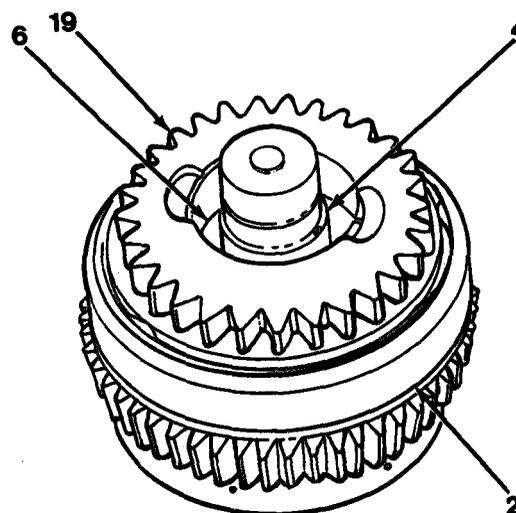
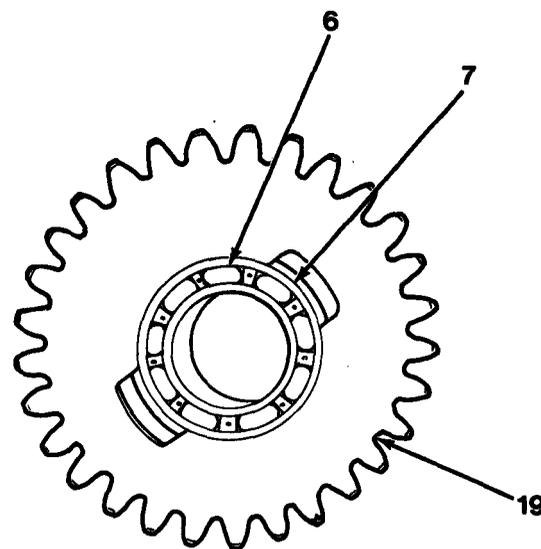

Figure 11-10
Figure 11-11
15. Remove bearing (3) from clutch shaft assembly (2) by using a puller.
16. Remove snap ring (4) from clutch shaft assembly (2, Figure 11-10).
17. Remove gear and hub welded assembly (19) and bearing (6) as an assembly from clutch shaft assembly (2) by using a puller.
18. Open snap ring (7) to remove bearing (6) from gear and hub welded assembly (19, Figure 11-11).
19. Remove bearing (6) from gear and hub welded assembly (19) by using a driver.
20. Remove snap ring (7), if inspection proves necessary, from gear and hub welded assembly (19).